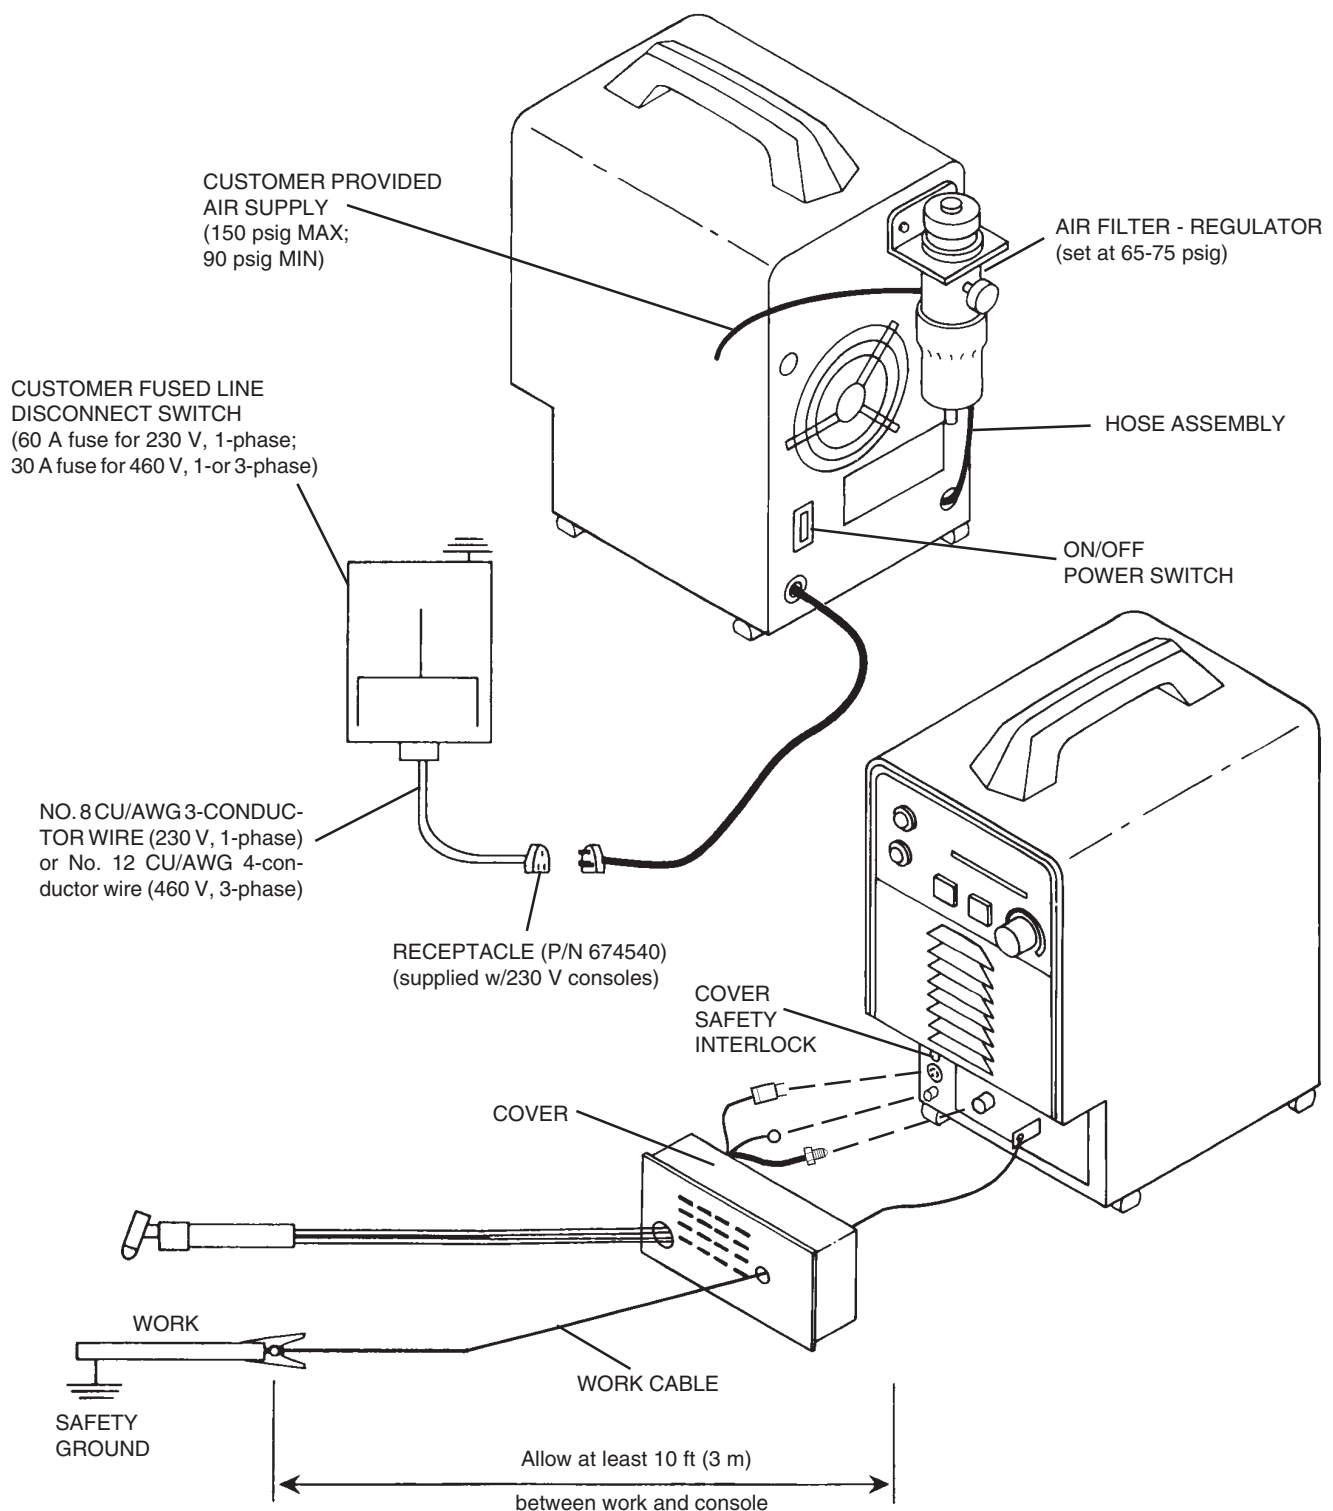

Figure 2-1. PCM-750i Interconnection Diagram
2.5 PRIMARY ELECTRICAL INPUT CONNECTIONS (FIGURE 2-1)